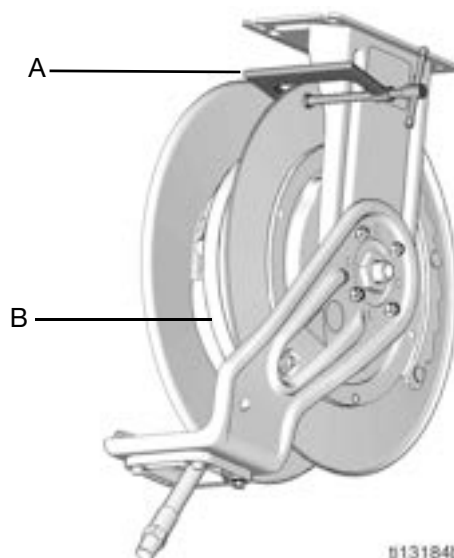

FIG. 24
2. Fully extend the hose (B) and latch the reel (FIG. 24).
3. Attach a C-clamp (A) to the reel flange to prevent the reel from unintentionally becoming unlatched and spinning freely (FIG. 24).
9. Attach the hose end (B) to the hose reel swivel (C). Then carefully remove the C-clamp (D) (FIG. 24, page 26),
10. Pull the hose (B) hard enough to release the latch and slowly allow the hose to retract.